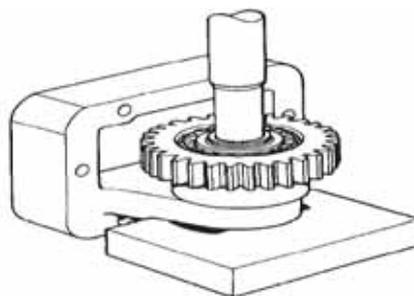

Figure 14 Pressing Shaft from Housing
- Press the shaft through the gear until there is sufficient space to remove the gear (Figure 14).